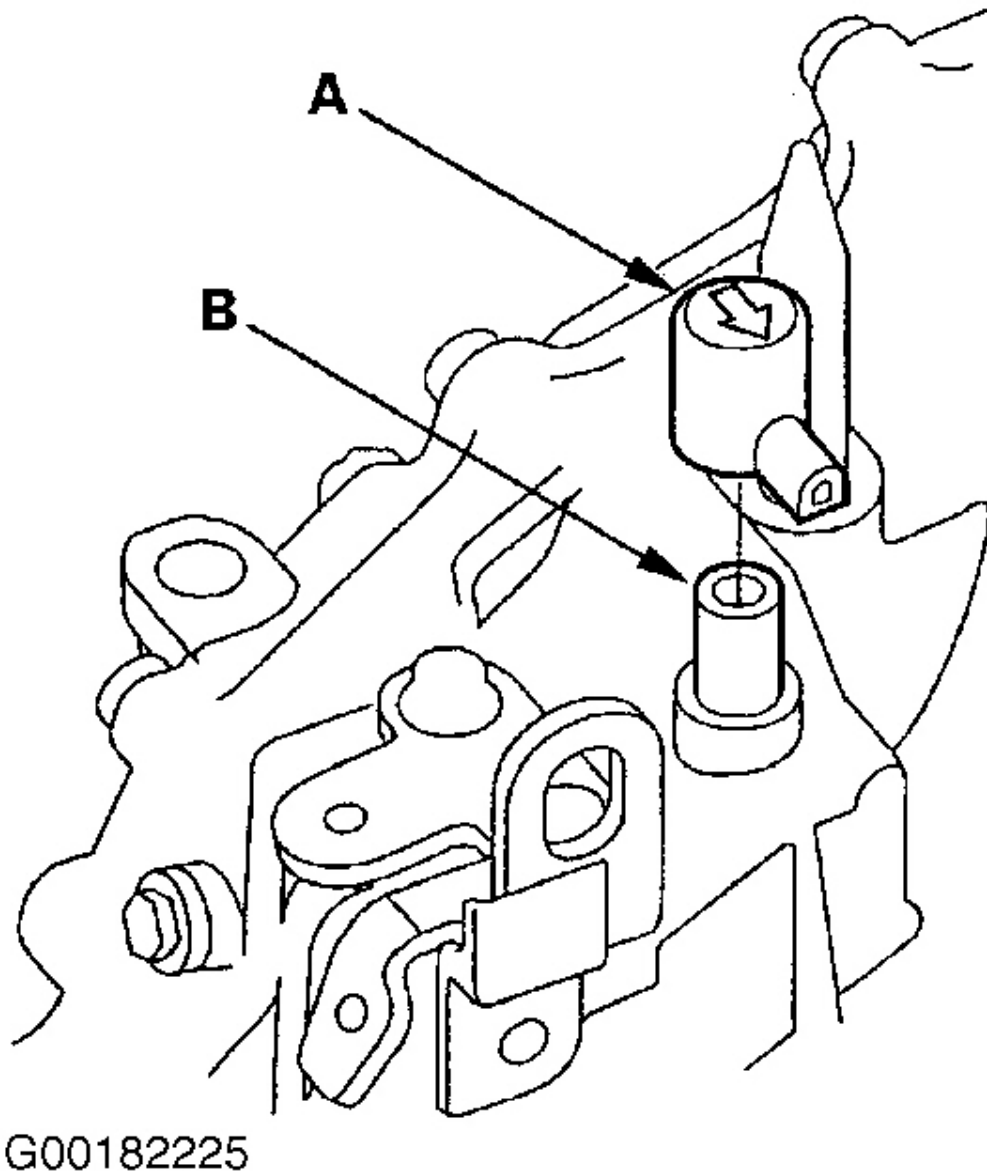

Fig. 44: Installing Breather Cap On Breather Pipe
24. Install solenoid harness connector with NEW "O" ring. Install lower valve body assembly with 3 oil feed pipes and 8 bolts. Install oil strainer with NEW "O" ring. Install oil pan with 2 dowel pins and NEW oil pan gasket. See **Fig. 32** . Install breather cap on breather pipe so arrow points toward flywheel housing. See **Fig. 44** .